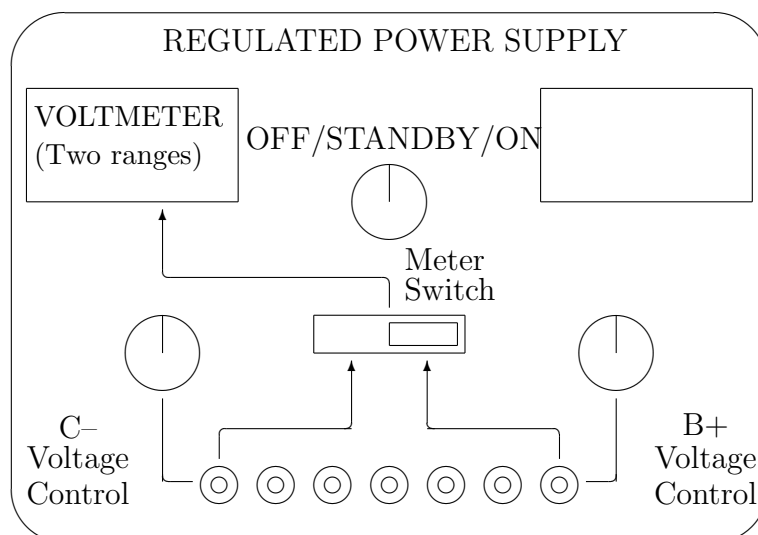

Figure 3. Regulated Power Supply for the CRT.
- A-2.** Turn the regulated power supply to the ON position. The total accelerating voltage  $V_a$  is the sum of two voltages, the C− voltage (controlled by the left knob) and the B+ voltage (controlled by the right knob); see Fig. 3. The voltmeter displaying the C− or B+ voltage is placed on the left of the power supply, and has two ranges: 0–400 V for B+ (the upper scale) and 0–130 V for C− (the lower scale). The range switch for the meter is at the center of the power supply. Set this switch to the position on the right. Vary the B+ control knob on the power supply and observe the voltage change on the the dual-range voltmeter. Set the B+ voltage to approximately 350 V.